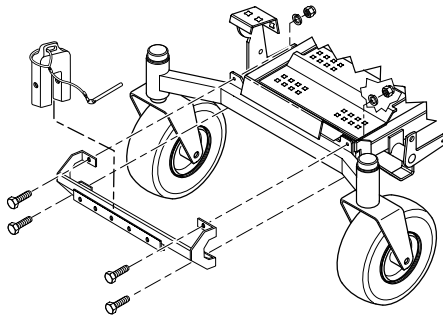

FIGURE 3-7
15. Using the weight support bar (p/n 451517) as a guide, identify the four corresponding mounting holes, and the existing hardware that will need to be removed in order to secure the weight support bar to the front of the machine as shown. See Figure 3-7.
16. Install one 7/16-14 x 1-3/4" hex head bolt into each of the four mounting holes in the weight support bar, and through the matching holes in the caster support weldment. Secure this assembly to the front of the machine using the 7/16- .5" x 1-1/4" x .083" flatwashers and the 7/16-14 elastic stop nuts. Torque hardware to 59 ft. lbs. See Figure 3-7.